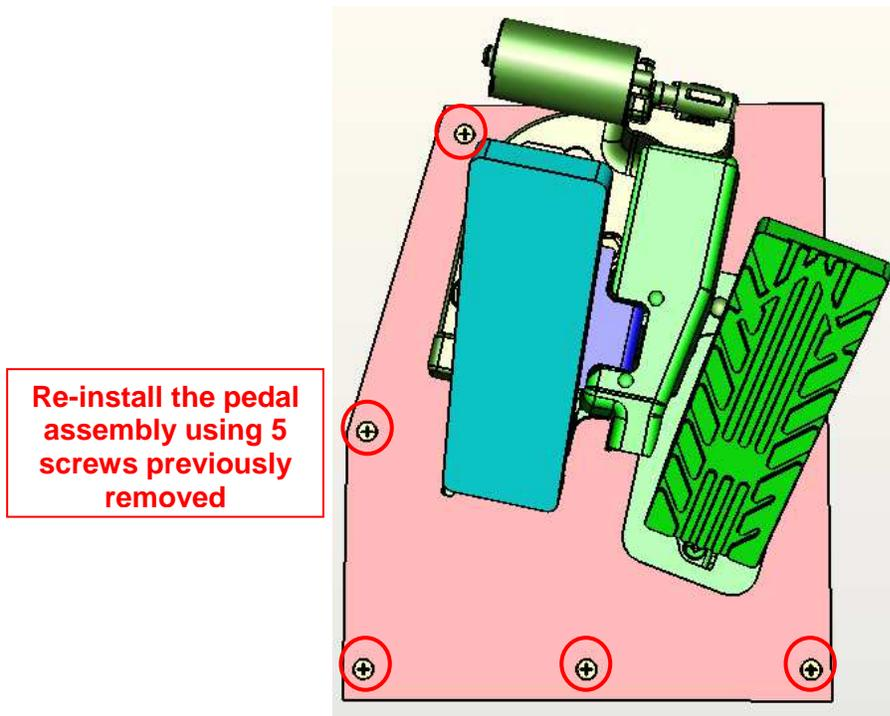

Figure 17: Re-install Brake/Accelerator Treadle Assembly
38. Re-install the pedal assembly using the 5 screws previously removed in Step 14. See Figure 17.